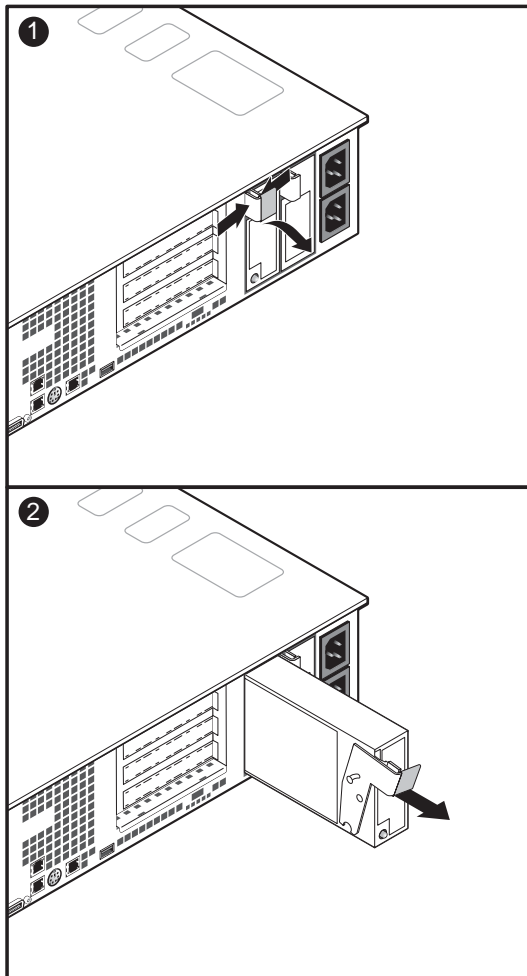

FIGURE 7-4 Replacing the Power Supply
1. **Squeeze the module handle to depress the latch (Figure 7-4, panel 1).**
2. **Rotate the handle down while pulling the module toward you (Figure 7-4, panel 2).**